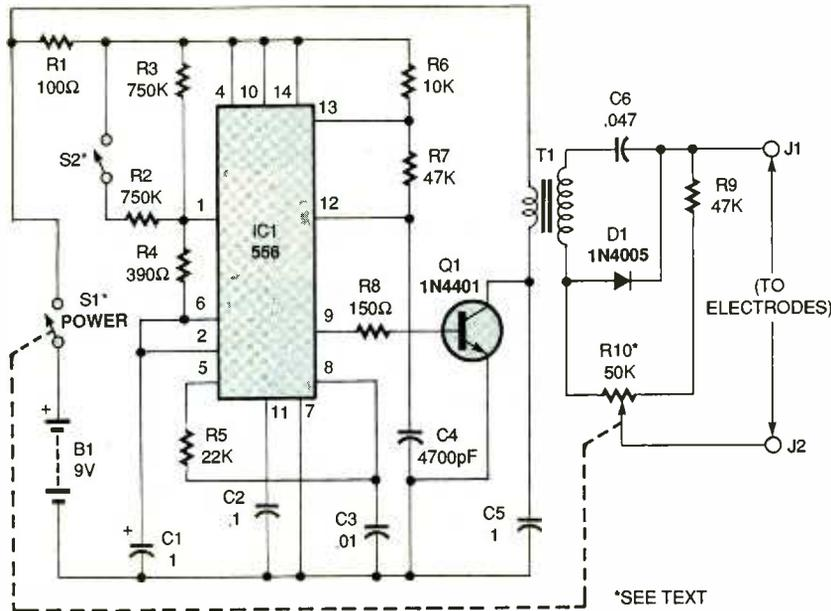

Fig. 1. Here's the schematic diagram for the Bio-Stimulator. Adjusting the settings of potentiometer R10 and switch S2 let you fine tune the output pulse.
**Circuit Description.** The schematic for the Bio-Stimulator is shown in Fig. 1. Power for the circuit is supplied by a 9-volt battery, B1. Switch S1 is used to turn